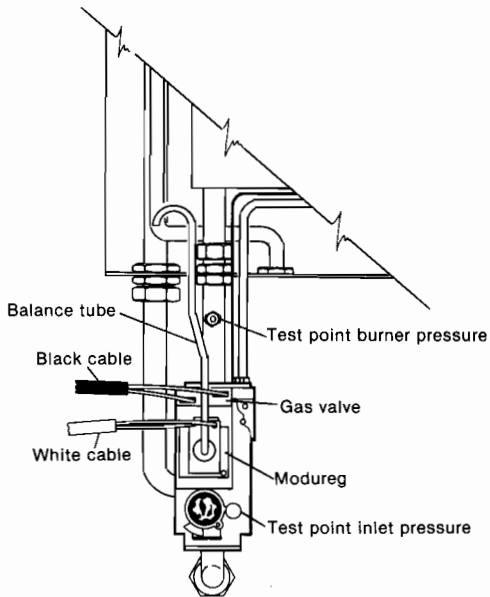

Fig. 22
- Loosen the screw in the burner pressure test point (fig. 22) and attach a gauge.
- e) Disconnect one of the wires from the "modureg" (fig. 22), this will reduce the burner to minimum which should read 2.5 mbar \pm 0.5 mbar. If the burner pressures are not as stated check the inlet pressure (fig. 22) which should be minimum 20 mbar. If that is correct, consult Brassware Ferrol. No attempt should be made to alter the D.H.W. burner pressure.